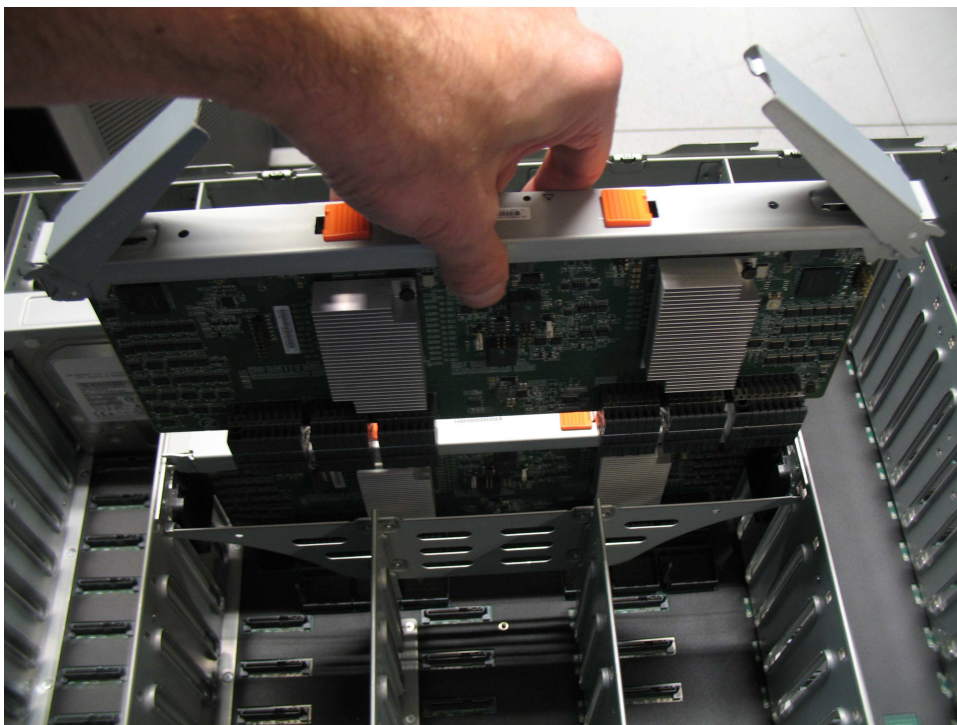

Figure 86. Replace the secondary expander module
- 4. Carefully align the edges of the secondary expander module in the guide slot in the enclosure, as shown in Figure 86 on page 89.